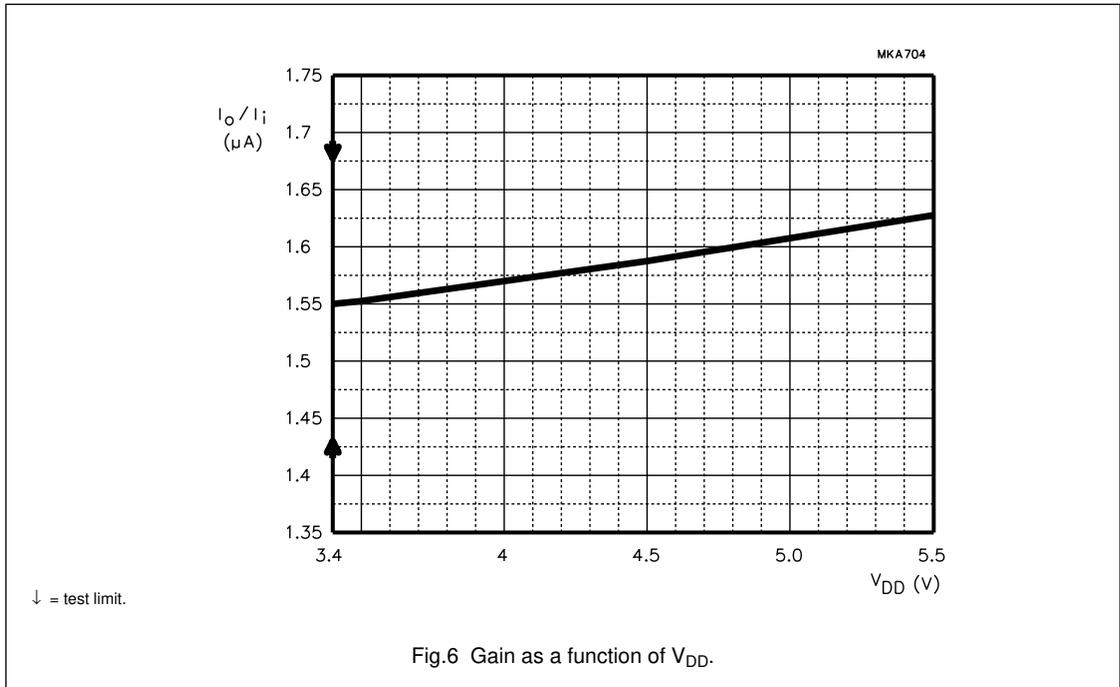

Fig.6 Gain as a function of V_{DD}.
2. The gain increases if a larger supply voltage is used (see also Fig.6).